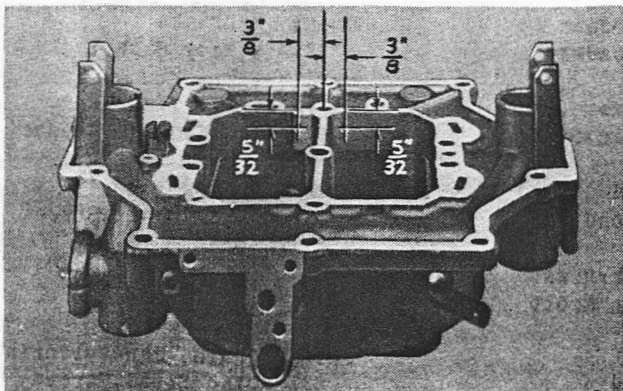

FIG. 2
2. Four drain holes are required, two in each pocket, (one on each side of the mounting screw hole). The location of each hole should be 3/8" from the centerline of the air horn and 5/32" from the gasket surface (see Fig. 2).